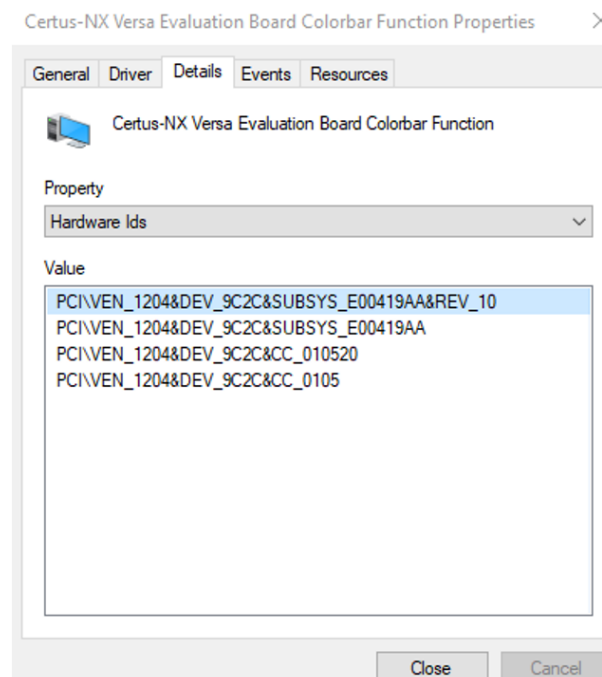

Figure 3.34. Hardware IDs of Certus-NX Colorbar Demo Device
- b. For Certus-NX devices, the Hardware IDs of the Base System Device for the Colorbar Demo is `PCI\VEN_1204&DEV_9C2C&SUBSYS_E00419AA` as shown in Figure 3.34.